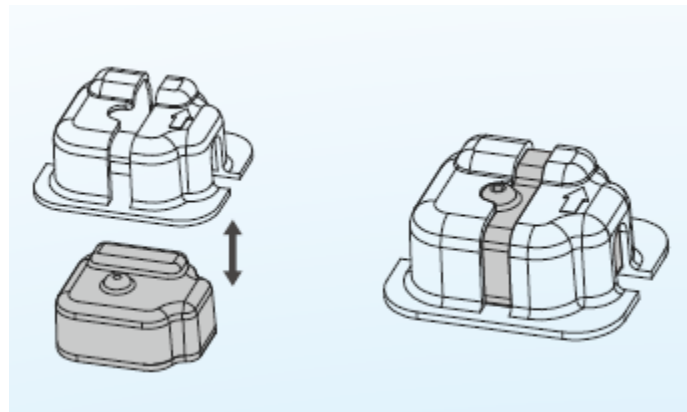

Fig. 4.15
4. Install sensor inside the rubber cap (fig. 4.15).